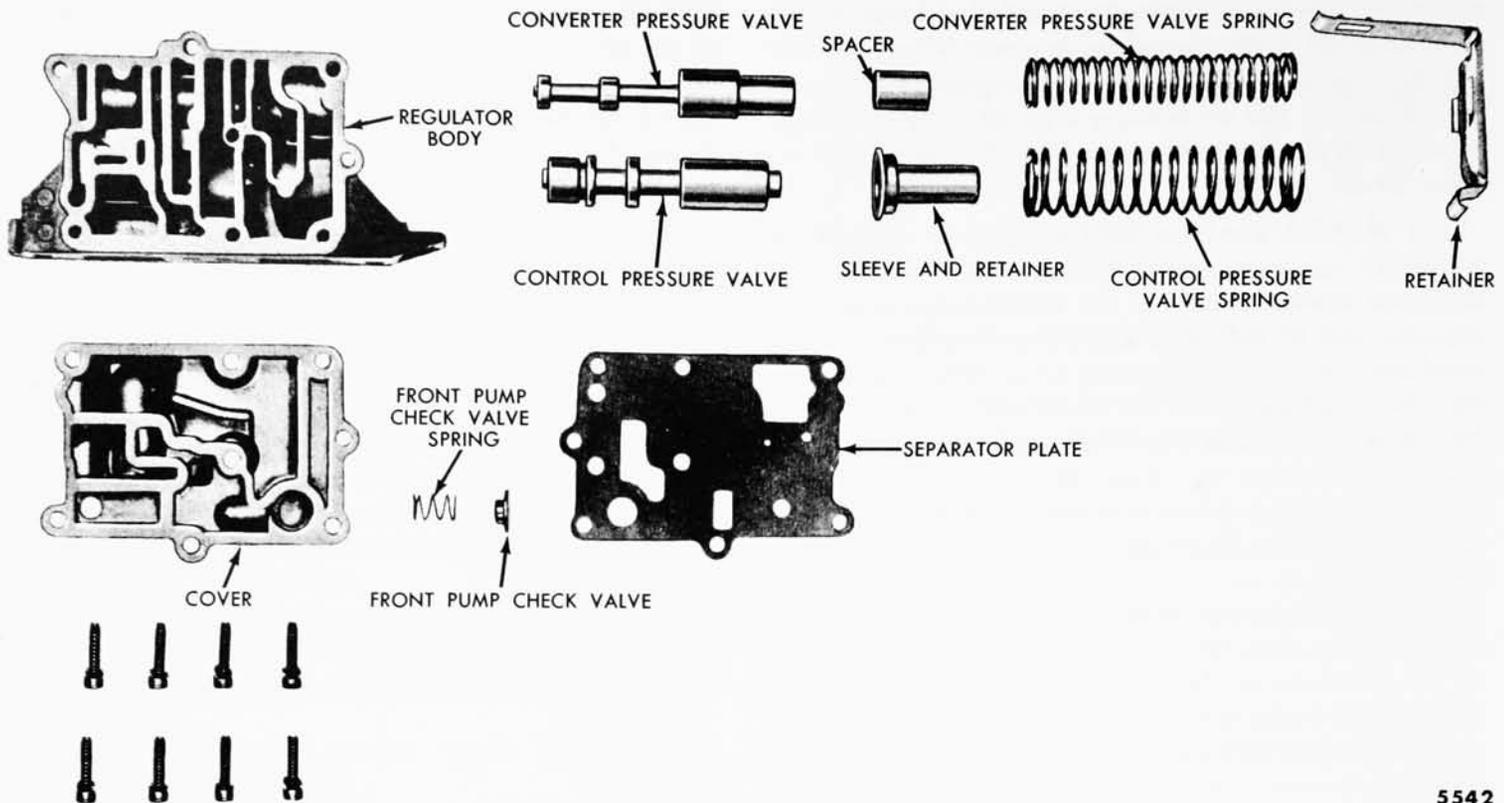

Fig. 19—Oil Pressure Regulator Assembly
(2) **OIL PRESSURE REGULATOR VALVE ASSEMBLY.** The oil pressure regulator valve assembly consists of a cast aluminum body, control pressure regulator valve and spring, converter pressure regulator valve and spring, and a spring retainer (fig. 19).